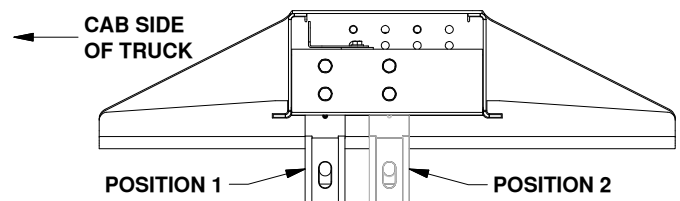

Figure B1: Cutaway view of Companion base with both socket post positions shown.
1. The socket post of the Companion hitch has two mounting options. These two options allow the king pin of the trailer to be placed close to the rear axle whether the Turnoverball socket is located in front of, directly over, or slightly behind the rear axle. Position 1 is recommended for trucks where the socket is in front of the axle. Position 2 is recommended for trucks where the socket is directly over or slightly behind the axle. See figure B1.